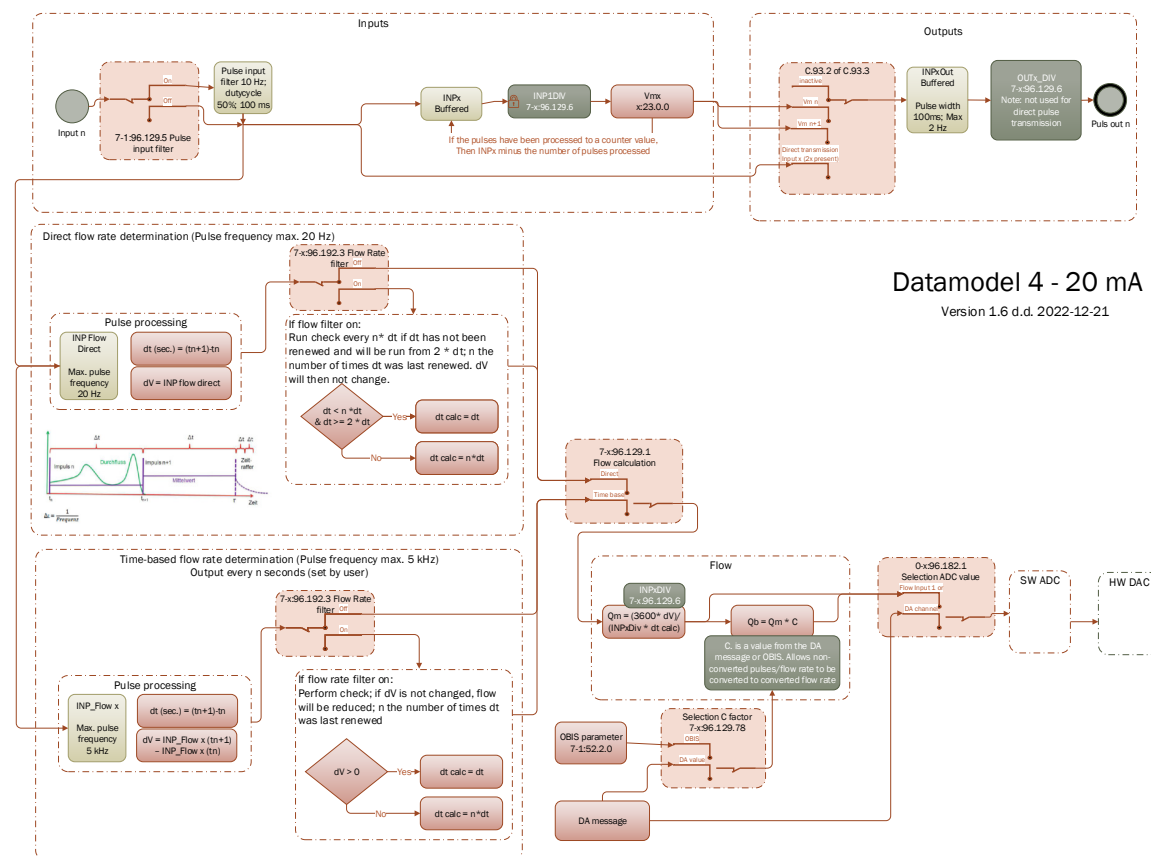

Figure 1. Data model 4 - 20 mA module.
3. LED2 for indication signal on pulse output 1 (relay output 1, figure 1)
4. LED3 for indication signal on pulse output 2 (relay output 2, figure 1)